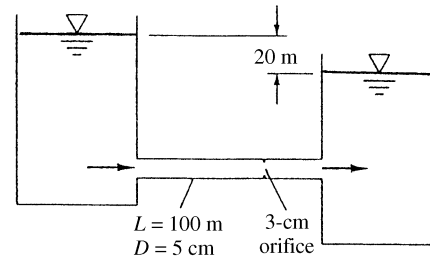

Fig. P6.146
**6.146** A pipe connecting two reservoirs, as in Fig. P6.146, contains a thin-plate orifice. For water flow at 20°C, estimate (a) the volume flow through the pipe and (b) the pressure drop across the orifice plate.